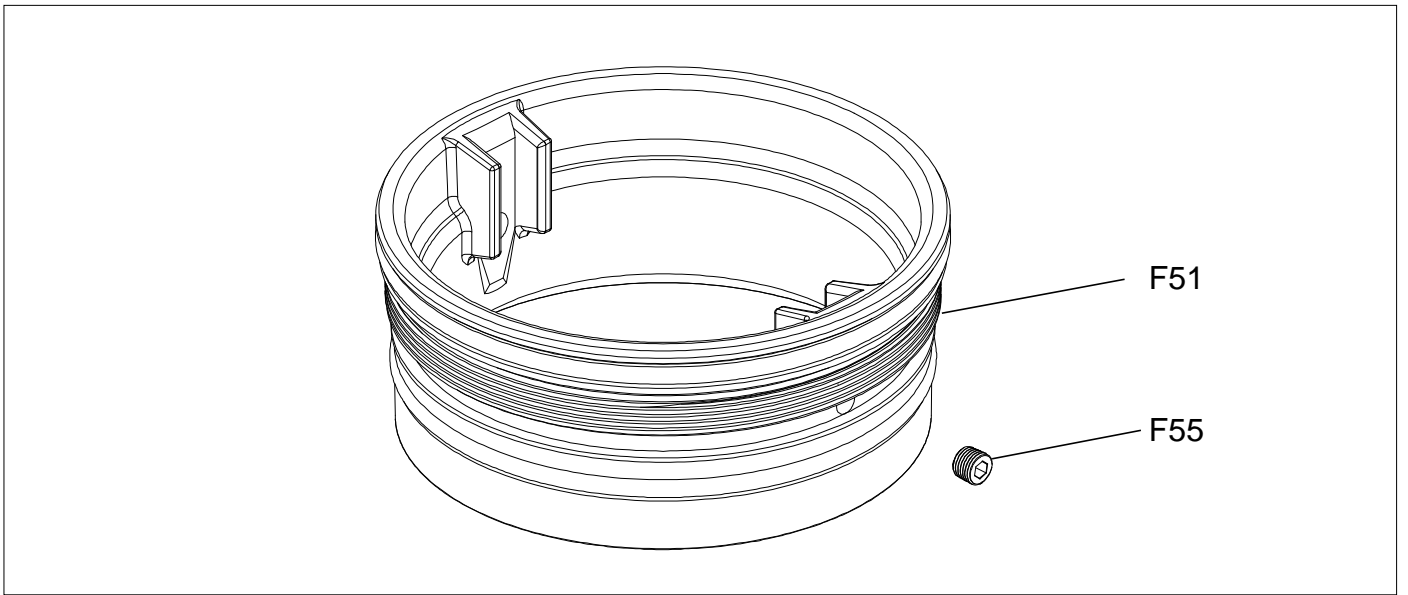

Fig. 2
2. After removing the main valve assembly, screw in two Brass Plugs (F55) into the Valve Seat Ring (F51) using a 3/16" hexagon key.(Fig. 2)